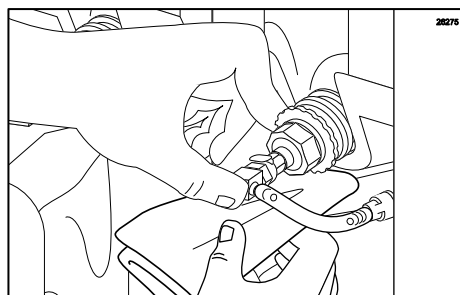

Figure 163
12. Connect the Syrup Bag Connector to the Syrup Bag Adapter. (See Figure 163.)